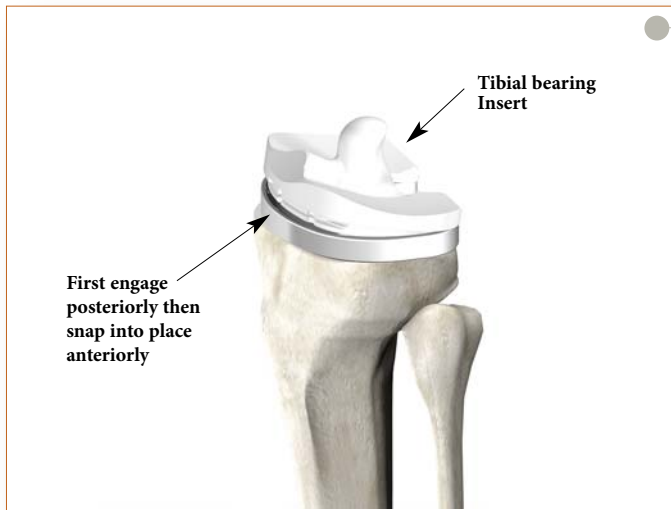

Figure 75
- ▶ Snap the insert in place anteriorly (**Figure 75**). Hand pressure or a light tap with a mallet is required. The tibial bearing insert is fully seated once the metal retaining wire locks under the barbs on the anterior, interior surface of the wall.